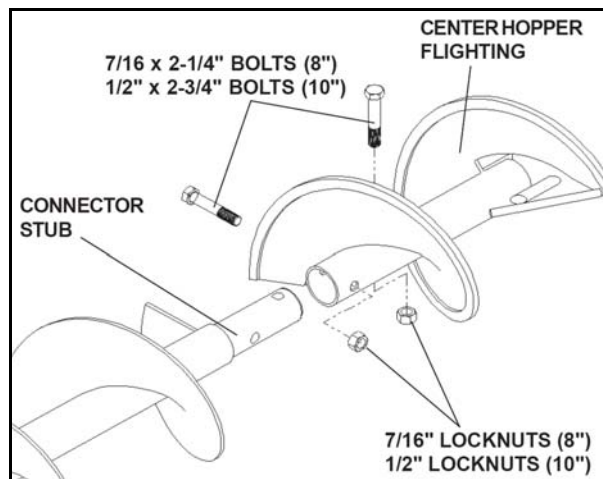

Figure 4.20
1. Attach the short center hopper lighting piece to the appropriate end of the underfloor lighting. As shown in Figure 4.20, slide the connector stub into the short lighting piece.